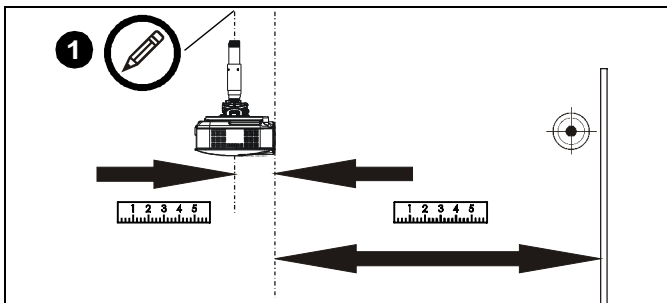

Figure 1
1. Determine exact location of extension column (not included) on suspended ceiling. Mark location on lower (finished) side of ceiling tile with pencil (See Figure 1).